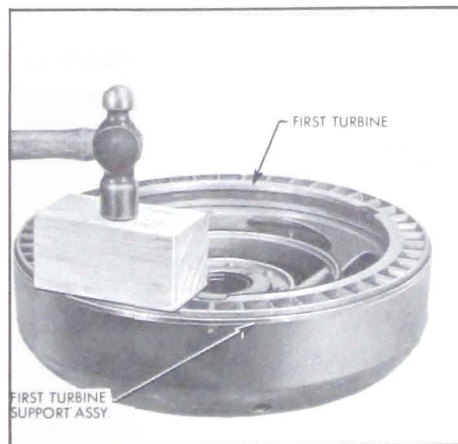

Figure 5-67—Driving First Turbine Into Support
15. Carefully drive turbine down into position by tapping with a wood block. Roll pin holes must line up. See Figure 5-67.